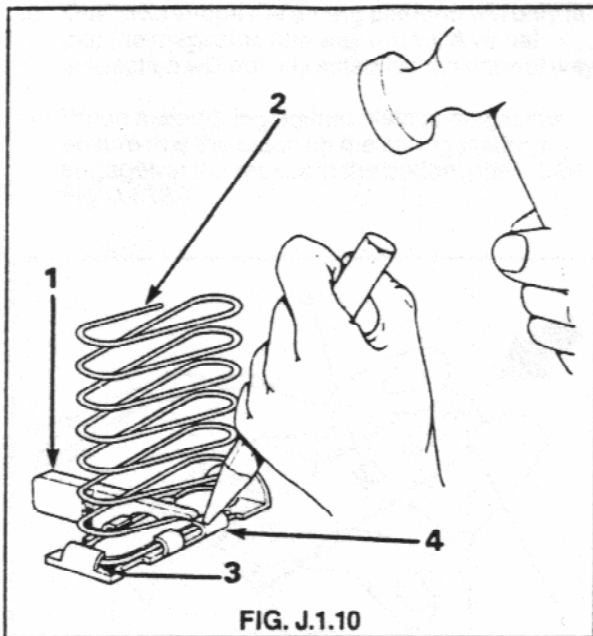

FIG. J.1.10
8. Using the special positioning tool locate the follower spring onto the platform and using a suitable punch and a hammer bend the lugs to retain the spring in position. See Fig. J.1.10.